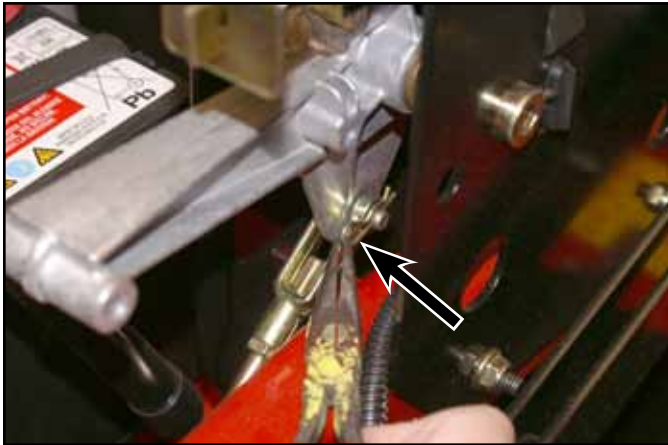

Fig. 065
8. Remove the hairpin and clevis from the adjustable yoke (Fig. 065).